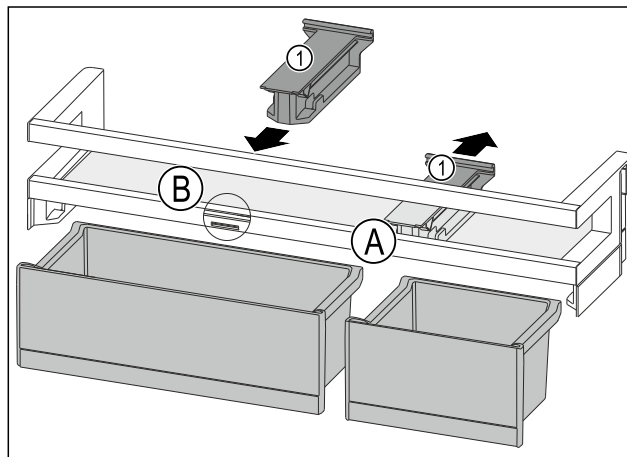

Fig. 83
- ▶ Take off the holding part Fig. 83 (1) in position Fig. 83 (A) backwards.
- ▶ Insert the holding part Fig. 83 (1) in position Fig. 83 (B).